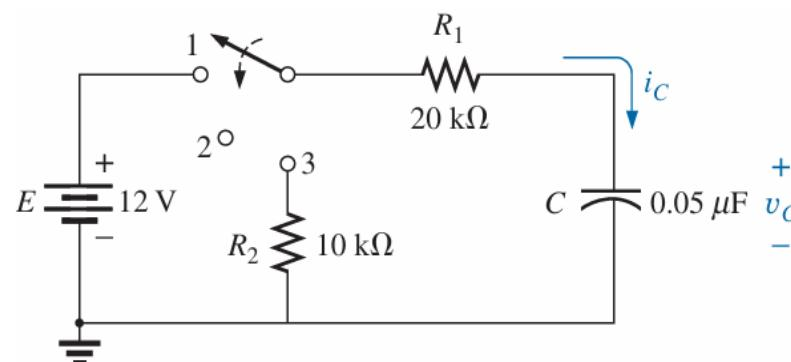

FIG. 44
EXAMPLE 8 For the circuit in Fig. 44:
- Plot the waveforms obtained in parts (a)–(c) on the same time axis using the defined polarities in Fig. 44.
v_C and i_C for the network in Fig. 44.